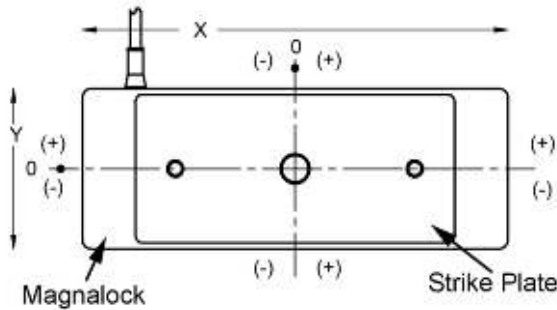

Figure 19. Magnalock and Strike Plate Alignment
**NOTE 1:** When installing the Magnalock and strike plate, each should be in proper alignment to the other (see Figure 19, "Magnalock and Strike Plate Alignment"). This is considered critical for the operation of both the BondSTAT and DPS. However, there are alignment tolerances for each model of Magnalock, but these should be viewed as the extreme—the installation desire is always total alignment.